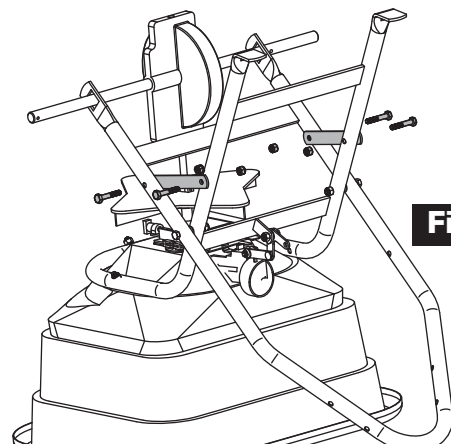

Figure 3
3. Align the Cross Braces to the Hopper and Axle Supports as shown in Figure 3. Using (4) 1-1/2" Bolts and Nylon Locknuts, assemble both Cross Braces. Tighten Cross Brace Bolts securely.